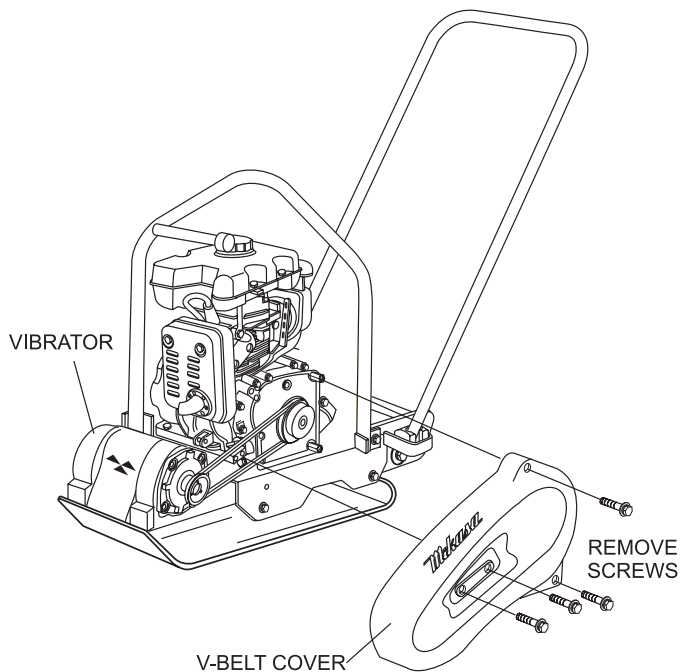

Figure 8. V-Belt Cover Removal
1. To check the V-belt tension, remove the bolts that secure the belt cover to the frame as shown in Figure 8.